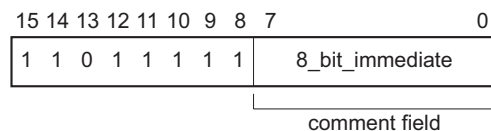

Figure 6-1 Thumb SWI instruction
- the instruction itself is 16-bit, and so requires a halfword load (see Figure 6-1)